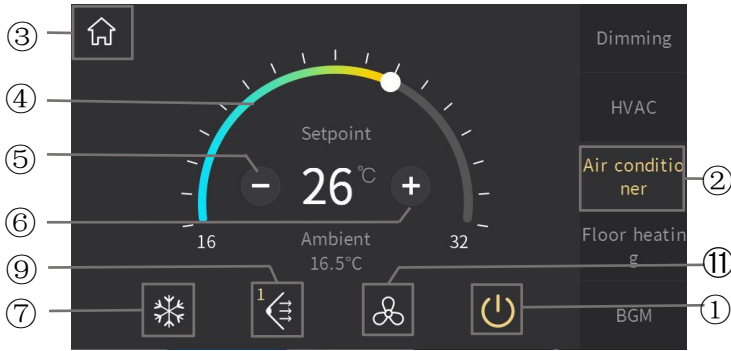
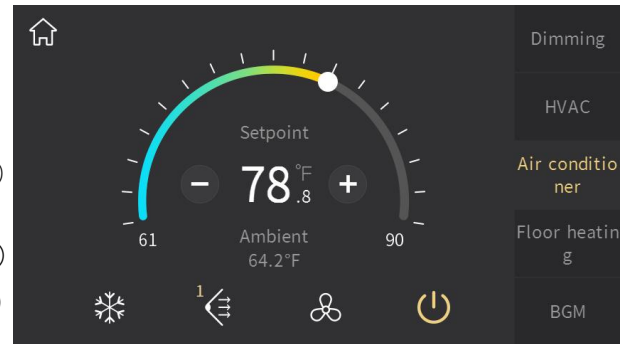
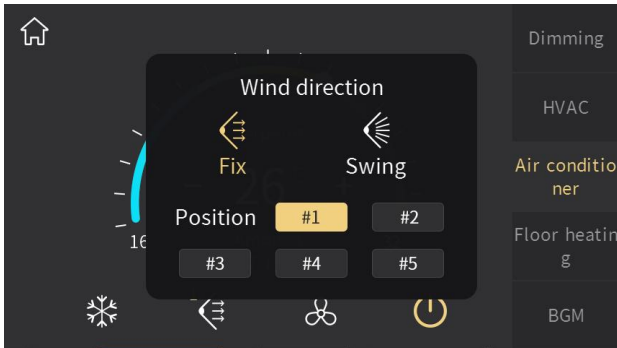

Fig.2.4.1
Fig.2.4.2
Fig.2.4.5
- ② **This area displays the page description identification of Air-Conditioner control, user can define the description through ETS;**
- ③ **Return to Home page by touching this icon;**
- ④ **Adjust the setting temperature by sliding this ring slider;**
- ⑤ **The function of this icon is to decrease the temperature;**
- ⑥ **The function of this icon is to increase the temperature.**
Adjusting the temperature by sliding the ring slider④ or touching the icon⑤ and icon⑥. For each touching of icon⑤ and icon⑥, the adjustment range is 1.0 degrees. When the setting temperature unit is set to degrees Celsius(°C), as shown in Fig.2.4.1, adjustment range of the setting temperature is 16~32°C by default; when the setting temperature unit is set to Fahrenheit(°F), the current temperature value will automatically convert to Fahrenheit value, as shown in Fig.2.4.2, adjustment range of the setting temperature is 61~90°F by default. The temperature adjustment range can be modified through parameter setting.
- ① **This icon indicates the uncertain status of mode;**
② **Enter to the fan direction setting by touching this icon, and will pop up a sub-window shown as Fig.2.4.5;**
Under fixed fan direction, select one of the 5 options (#1,#2,#3,#4,#5) for fan direction position, for instance, select #1, interface as shown in Fig.2.4.5, then touch the area outside the sub-window to return the previous level function page, the position selected will be shown on the fan direction icon of the function page, as shown in Fig.2.4.1. For swing fan direction, because fan direction change all the time, there would be no fixed position, only display swing fan direction icon on the interface.
Fan speed adjustment of fan direction set to be disable or enable by parameter configuration. When disable, there will be no fan speed item shown on the interface, as shown in Fig.2.4.1; when enable, fan direction can be adjusted.